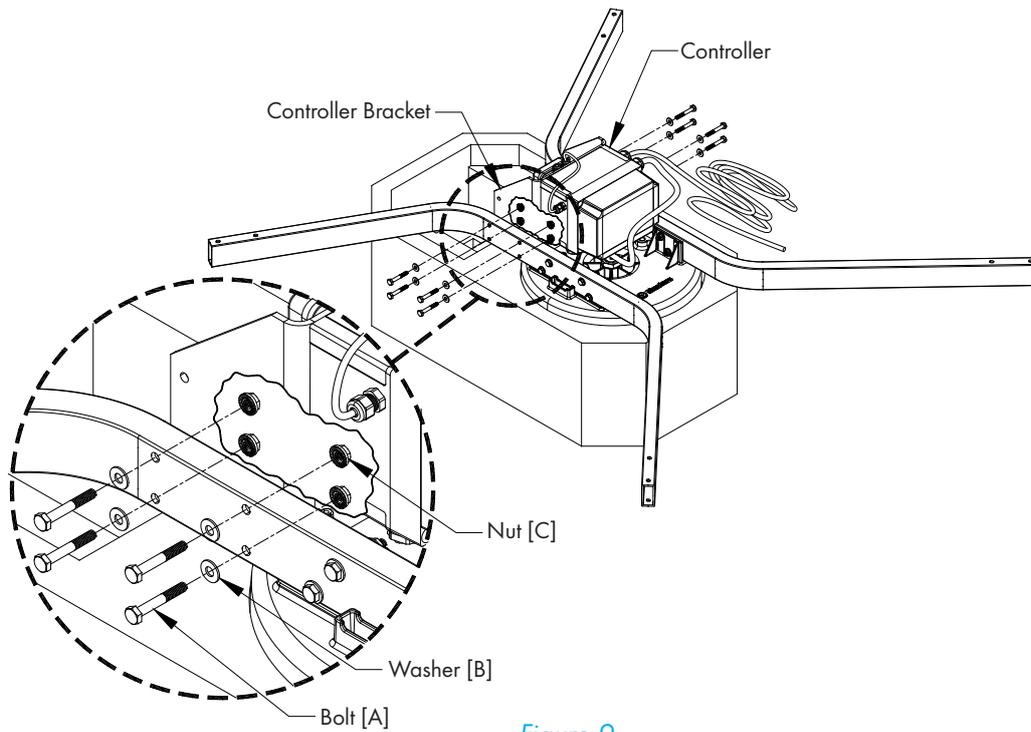

Figure 9
Carefully pull the Munters Drive controller out of the foam packaging and slide it between the struts so that the 4 holes in each strut line up with the holes in each side of the controller bracket and fasten with (8) bolts [A], washers [B] and nuts [C]. See Figure 9. Tighten all bolts and nuts at this time.